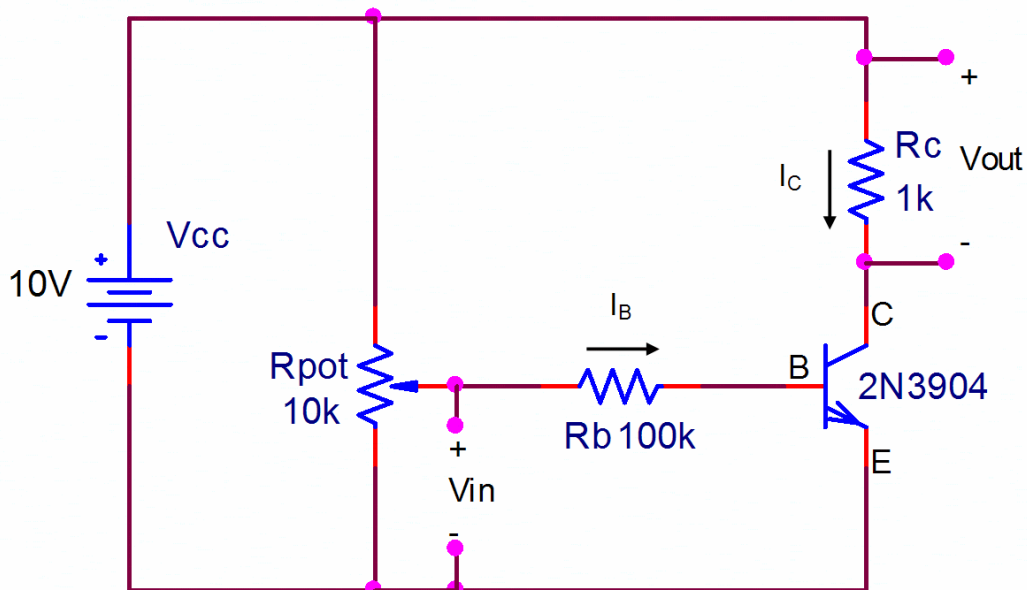

Figure 1
Read Section 4-3 in the textbook on transistors. Assume the transistor you will be using has a  $\beta$  of 200, and threshold voltage  $V_\gamma = 0.7V$ . The transistor will enter the active region when  $v_{in}$  reaches the turn-on voltage  $V_\gamma$ . For the circuit of Fig. 1, calculate the value of  $v_{in}$  that will cause the transistor to enter saturation.
- c. On a protoboard, build the circuit of Fig. 1. Turn on the power supply and adjust the potentiometer so that  $v_{out}$  is 5V.
3. Use Excel's line fit routine to compute the slope and y-intercept of the line in the active region of the transistor input/output characteristics plot for your particular transistor. (You may want to copy your data set to a new sheet and then delete those portions that are affected by the cutoff and saturated regions of the I/V characteristics.) Using the measured slope and Eq. (1), calculate the average  $\beta$ . Does this  $\beta$  agree with the  $\beta$  measured in Procedure 2a of this lab? Use the computed value of b and the equation for b to determine an average  $v_{be}$  for this transistor. Does this agree well with the  $v_{be}$  found graphically in Procedure 3a?
4. Draw three schematic diagrams for the circuit of Fig. 1, one for each operating mode, however in place of the transistor draw the appropriate large-signal transistor model for that mode. For all three of these circuits write two KVL loop equations, one for the base-emitter side (which will include the voltage across  $R_B$ ) and one for the collector-emitter side of the circuit (which includes the voltage across  $R_C$ ).